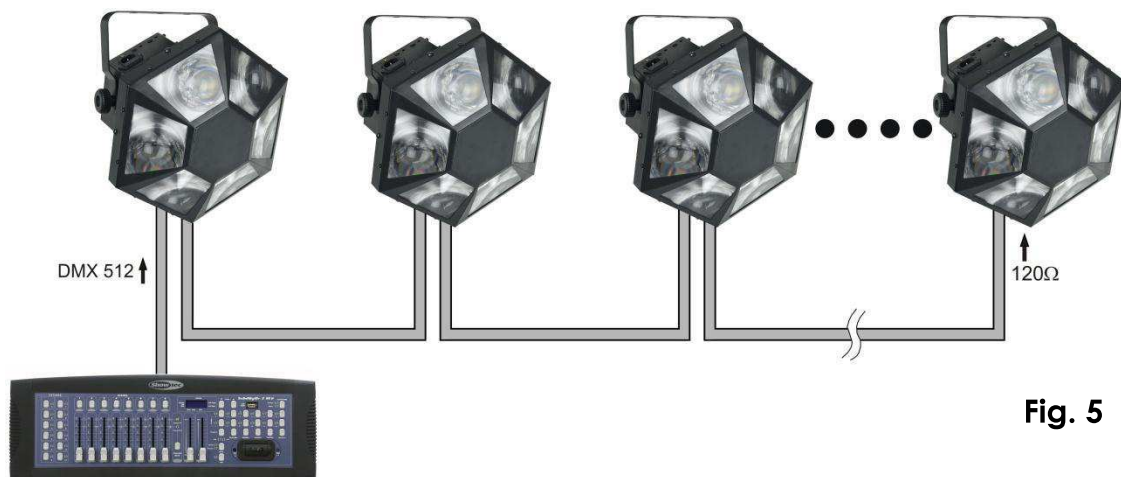

Fig. 5
4. Link the units as shown in (figure 5), Connect a DMX signal cable from the first unit's DMX "out" socket to the second unit's "in" socket. Repeat this process to link the second, third, and fourth units.